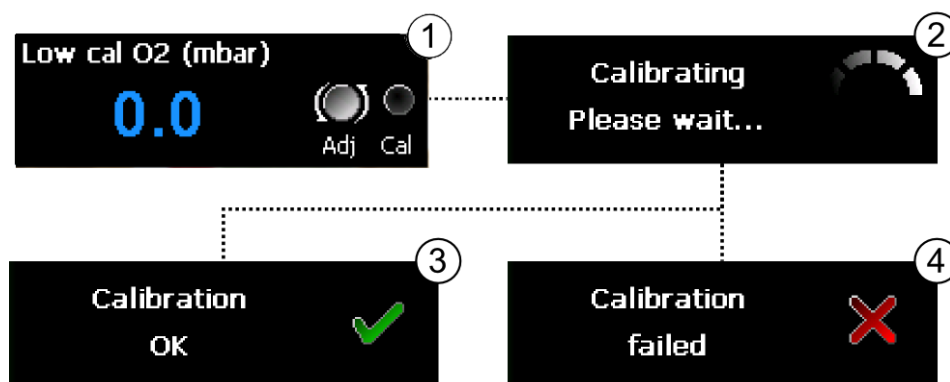

Figure 41 Low calibration gas adjustment (mbar)
With the Low or High calibration selected within the menu, the calibration value entry panel will be shown (**Figure 41** ①) and the value coloured blue. Rotating the adjustment knob allows the calibration value to be increased or decreased. The adjustment knob should be rotated until the known concentration of the calibration gas is displayed.
Once an adjustment has begun the sensor will take a moment to process the adjustment request (**Figure 41** ②) and will decide whether the value supplied is reasonable. See troubleshooting (Section 7) for possible invalid calibration conditions.
If a calibration adjustment is accepted, then a 'Calibration OK' message will be shown (**Figure 41** ③)
(**Figure 41** ) Both of these messages can be cleared by pressing the mute button.